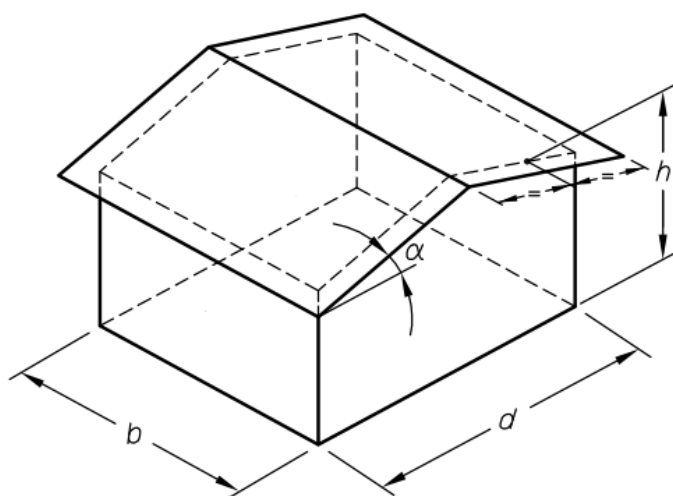

Figure 1 - Building Dimensions Definition
For building dimensions definition, please see **Figure 1**;
- Building aspect ratio **eArc panels attached to enclosed building with aspect ratios $h/d \leq 0.5$ and $h/b \leq 0.5$, see Figure 1**